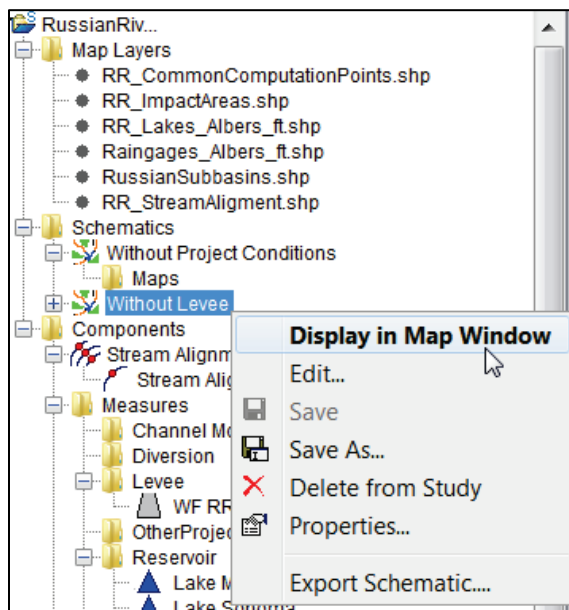

Figure 6.18 Schematic Shortcut Menu
these tasks are accomplished through the schematic shortcut menu (Figure 6.18). To access the schematic shortcut menu, from the **Schematic** tab, right-click on an existing schematic under the **Schematics** folder, and the schematic shortcut menu will appear.
1. From the schematics shortcut menu (Figure 6.18) click **Display in Map Window**.
1. From the schematics shortcut menu (Figure 6.18) click **Edit**. The **Schematic Editor** will open (Figure 6.19).
To save the active schematic, from the schematic shortcut menu (Figure 6.18), click **Save**. Any changes that have occurred to the selected schematic will be saved by HEC-WAT.
1. From the schematics shortcut menu (Figure 6.18), click **Save As**. The **Save Schematic As** dialog box will open (Figure 6.20).
A schematic can only be deleted as long as it is not associated with an alternative. For example, in Figure 6.18, the *Without Project Conditions* schematic is associated with an alternative, so the **Delete from Study** command does not display on the schematic shortcut menu. To delete a schematic not associated with an alternative:
1. From the **Schematic** tab, on the **Study Pane**, from the **Schematics** folder, right-click on a schematic that is not associated with an alternative. From the **Schematics** shortcut menu (Figure 6.18), click **Delete from Study**.
The properties of a schematic include the name; description; when the schematic was modified; who created the schematic; when the schematic was created; and, the file that contains the schematic data. To view the properties of a schematic, from the schematics shortcut menu (Figure 6.18), click **Properties**. The **Properties for SchematicName** dialog box will open (Figure 6.21).
1. From the **Schematic** tab, on the **Study Pane**, from the **Schematics** folder, right-click on a schematic. From the **Schematics** shortcut menu (Figure 6.18), click **Export Schematic**.